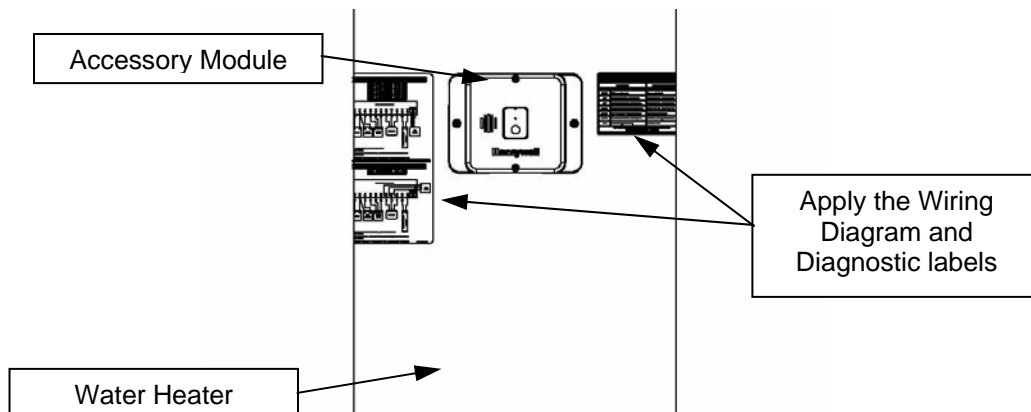

Figure 10
Step 10: Apply both the wiring diagram and diagnostic labels. These labels should be applied to the water heater jacket near the Accessory Module. This is shown in Figure 10.